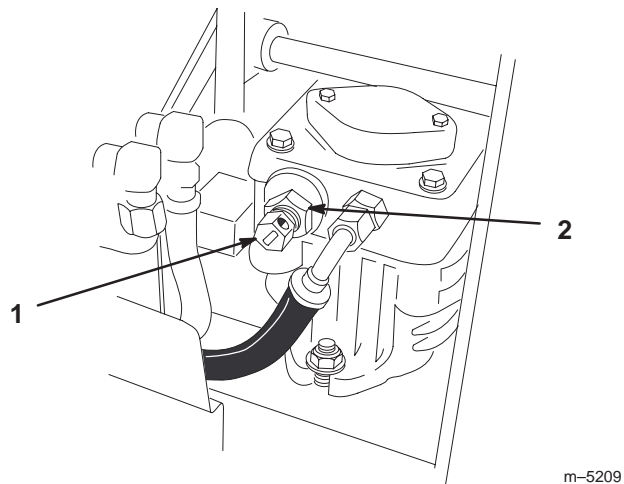

Figure 38
1. Loosen large jam nut several turns (Fig. 38).
2. Gently close by-pass valve (Fig. 38).
3. Open by-pass valve 1/2 turn (Fig. 38).
4. Tighten jam nut to lock the adjustment (Fig. 38).